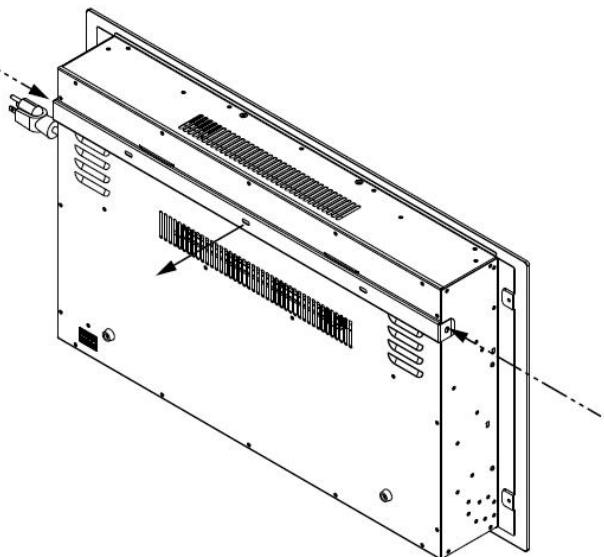
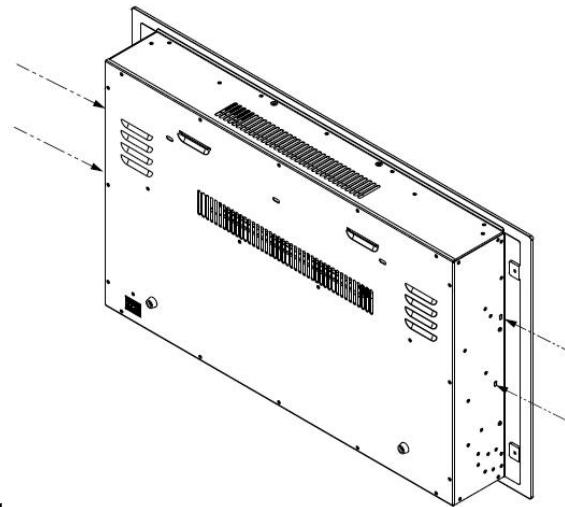

Fig.1
Fig.2
C. Place unit face down on a soft, non abrasive surface. Remove the bracket from the back of the unit by removing the screws, refer to Figure 1. Remove four pcs of silver screws at bothe sides, refer to Figure 2.